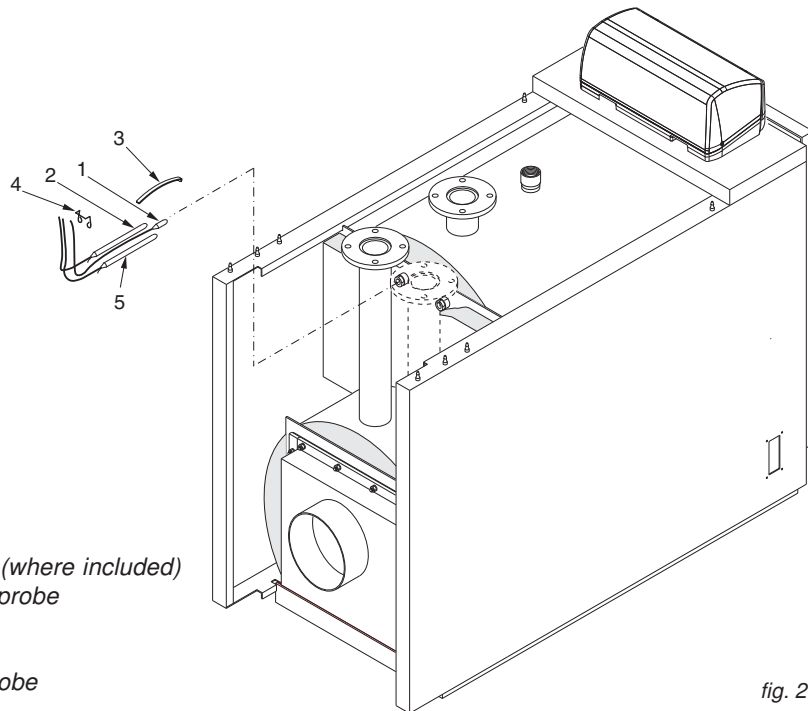

fig. 21
- H) Insert into the conduits the bulbs of the instruments as indicated in fig. 21 and, depending on the panel board installed on the boiler, the probes as illustrated in the electric-hydraulic diagrams (page 26).
- G) Insert into the conduits the bulbs of the instruments as indicated in fig. 21 and, depending on the panel board installed on the boiler, the probes as illustrated in the electric-hydraulic diagrams (page 26).
- A) Mount the insulation jackets (pos. 1 and 2) of the boiler body and secure the 2 edges with the elastic straps (pos. 3) supplied in the accessory box, hooking them to the external fabric part of the insulation.
- B) Mount the rear insulation (pos. 4).
- C) Open the boiler door and mount the front insulation (pos. 5) fitting the support hinges of the door into the pre-cuts.
- D) Position the left side panels (pos. 6, 7 and 8) with the lower bend inside the L-shaped profile at the base of the boiler body and hook the upper part to the reinforced profiles. To determine which is the front side, refer to the cable gland plates (pos. 20): they must face the front of the boiler.
- E) Position the right side panels (pos. 9, 10 and 11) with the lower bend inside the L-shaped profile at the base of the boiler body and hook the upper part to the reinforced profiles. To determine which is the front side, refer to the cable gland plates (pos. 20): they must face the front of the boiler.
- F) Connect the front reinforcement profile (pos. 12) to the two sides (pos. 6 and 9).
- G) Rotate the cover of the panel board frontwards after having removed the two screws on the side and insert the electric inlet cables and the outlet probe capillaries through the slots at the base. Fit the panel board to the upper panel (pos. 13). Fit the upper panel (pos. 13), complete with panel board, to the two sides of the casing.
- H) Insert into the conduits the bulbs of the instruments as indicated in fig. 21 and, depending on the panel board installed on the boiler, the probes as illustrated in the electric-hydraulic diagrams (page 26). Wire the panel to the power line, to the burner and to any pumps, etc. Close the cover of the electric control board. Guide the burner plug through the side plate (pos. 20) on the preferred side and secure the cables with the cable gland supplied. Fasten the plates (pos. 20) to the sides of the casing.
- I) Mount the rear panels (pos. 21 and 22). Mount the cable clamps (pos. 23) to the upper rear panel. Secure the electric cables coming out from the rear of the boiler with the cable clamps, tightening them moderately.
- L) Fit the upper rear panel (pos. 14) to the sides of the casing.
- M) Position the upper support panels (pos. 15) on the sides of the casing.
- N) Fit the upper left (pos. 16 and 17) and right (pos. 18 and 19) longitudinal panels to the support (pos. 15) and hook them to the sides of the casing.